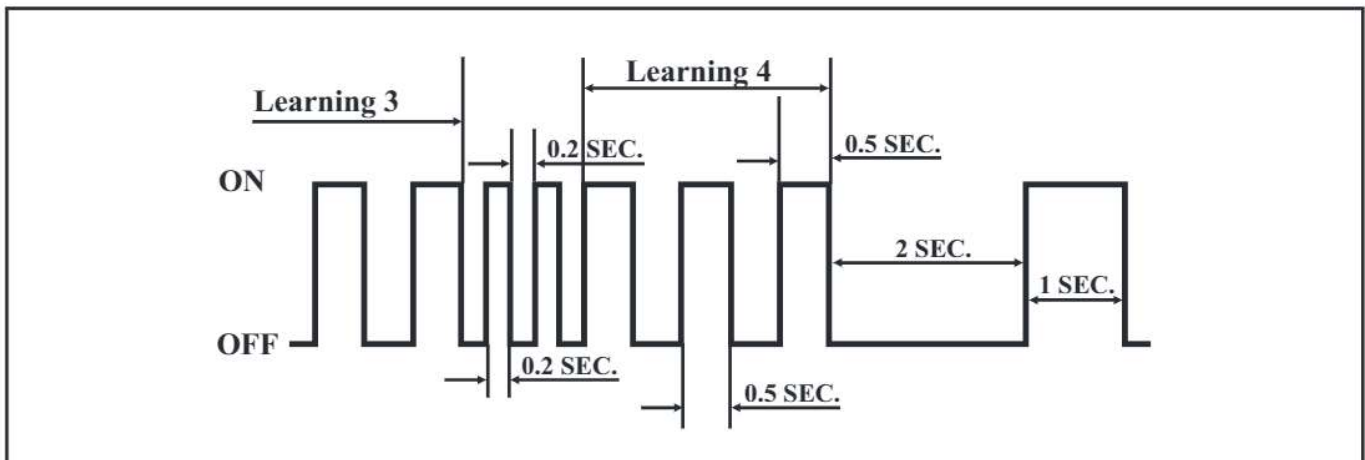

Figure 42
16. When the Overtemperature Lamp begins to blink 1 second ON and 2 seconds OFF, as seen in Figure 42, release the accelerator pedal.